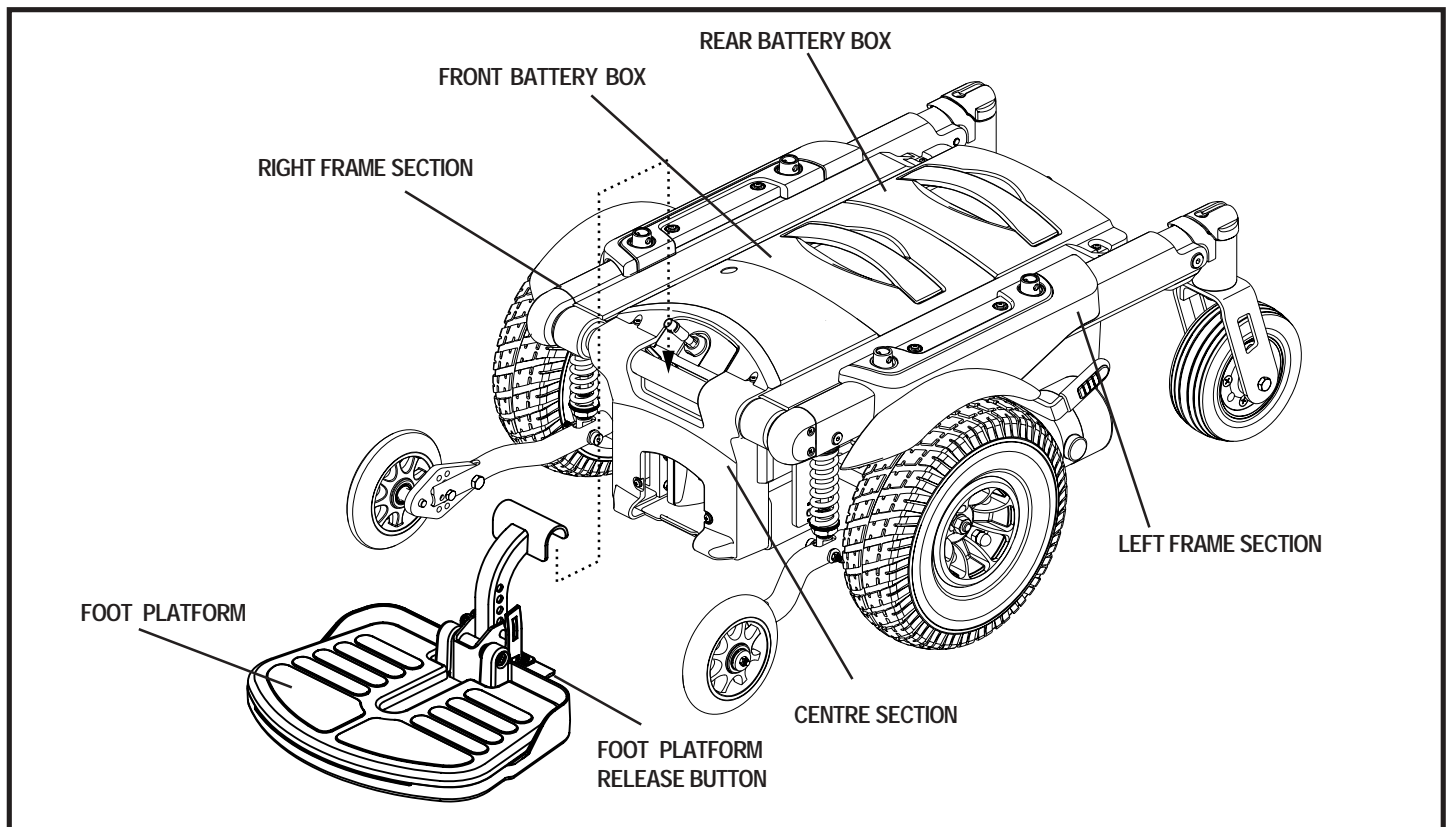

Figure 12. Quantum Dynamo 1107 Power Base Parts
The Quantum Dynamo 1107 power base disassembles into six parts for easy transportation and storage. See figure 12.
4. Press the foot platform release button and lift off the foot platform or remove the leg rests. See figures 12, 19 or 20.